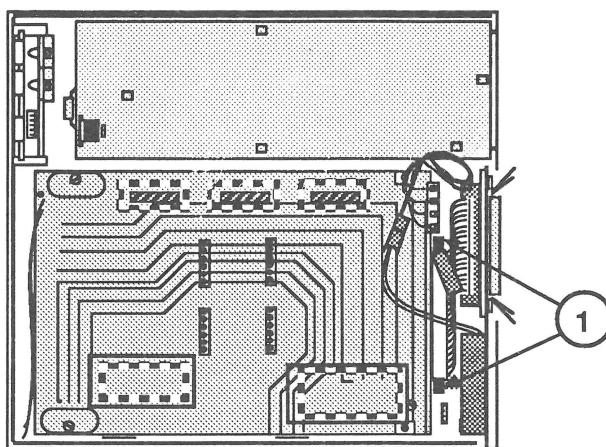

FIGURE 4
4. Open the end tabs on the SCSI device-to-case cable connector (Figure 4, #1) and disconnect the cable from the CD SC drive mechanism.